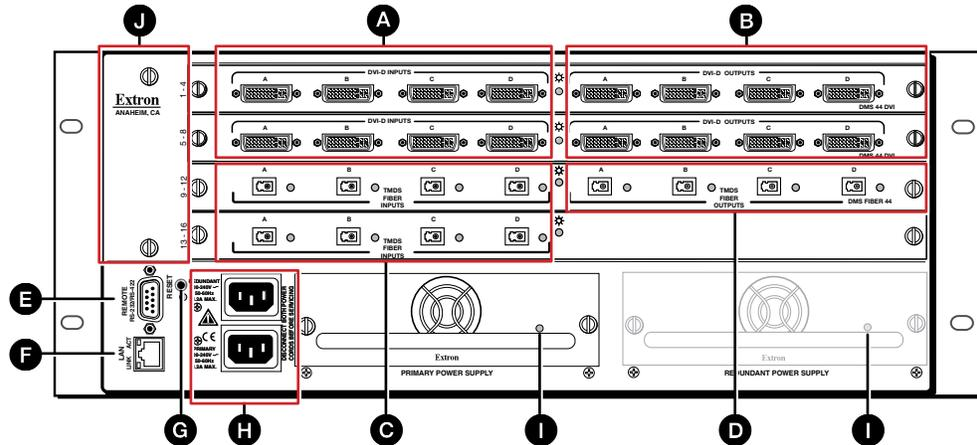
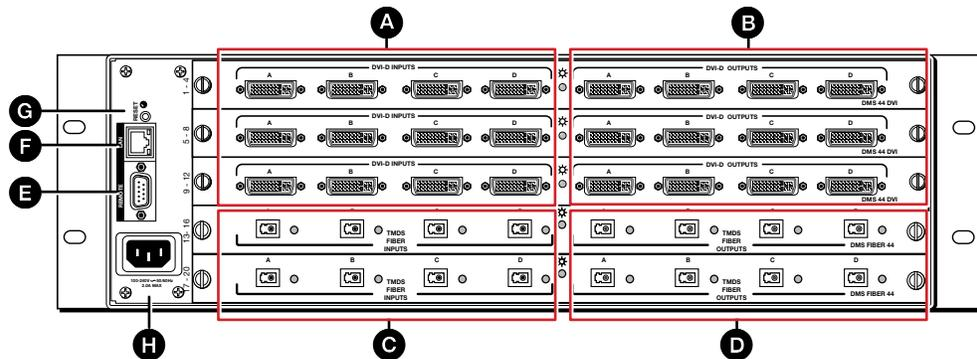
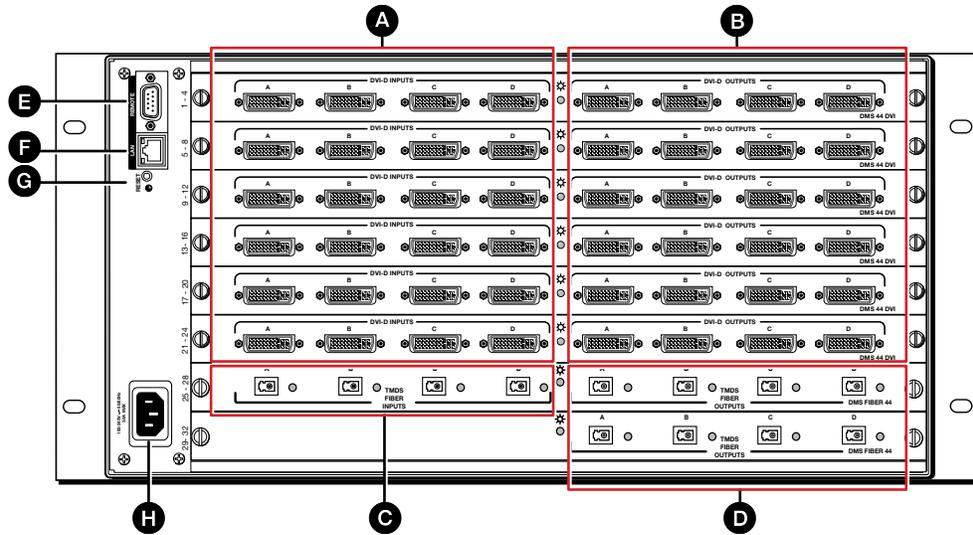
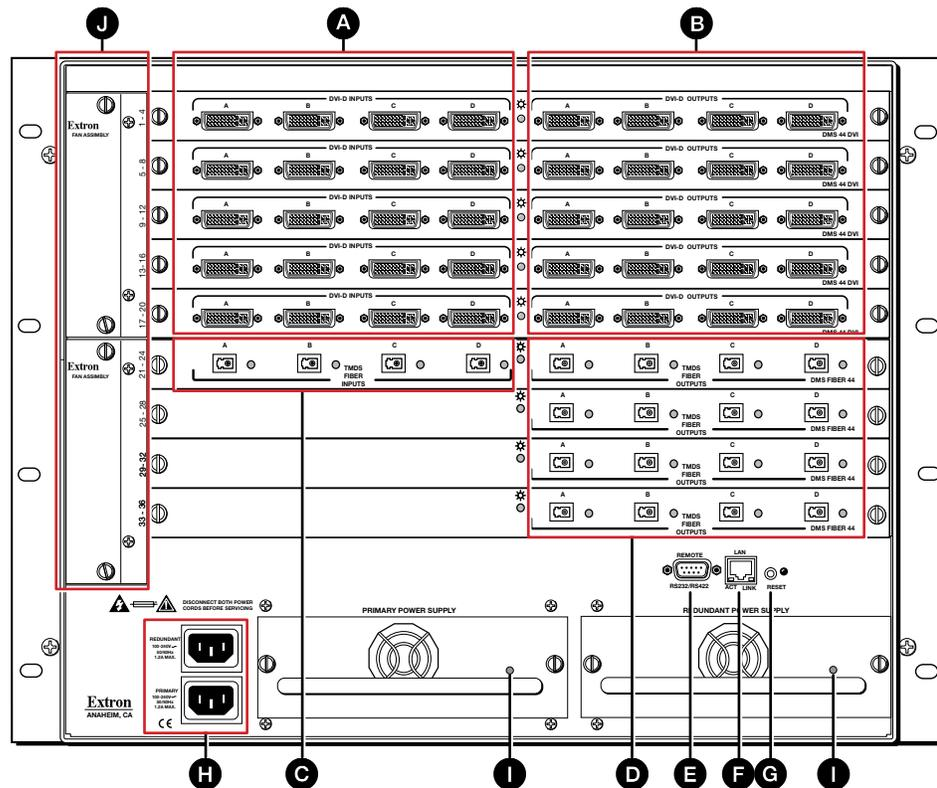

Figure 3. DMS 1600 Matrix Switcher Rear Panel
Figure 4. DMS 2000 Matrix Switcher Rear Panel
Figure 5. DMS 3200 Matrix Switcher Rear Panel
Figure 6. DMS 3600 Matrix Switcher Rear Panel
Figure 3, below, shows a DMS 1600. Figure 4, below, shows a DMS 2000. **Figure 5**, on the next page, shows a DMS 3200. **Figure 6**, on the next page, shows a DMS 3600. The four models have similar features, but different-sized enclosures and a different arrangement of the features. The DMS 2000 and DMS 3200 do not have swappable power supplies or fan assemblies. The DMS 3600 has two fan assemblies.
A DVI-D Inputs ports (see figure 3 on page 7 through figure 6 on page 8)— Connect DVI cables between these ports and the DVI output ports of the digital video sources (see figure 8).
- C Fiber optic input ports** — Connect fiber optic cables to the Input LC connectors (see figure 6 on page 8 through figure 6 on page 8).